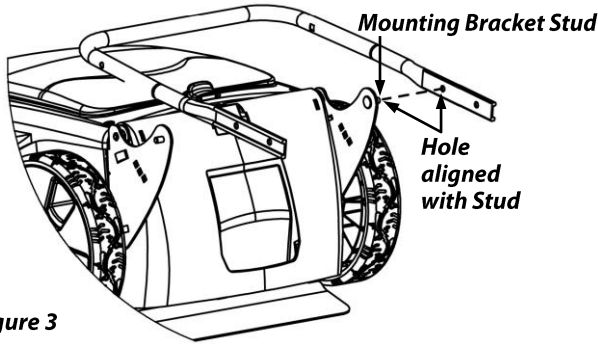

Figure 3
1. Lay the Lower Handlebar on top of the Mower and align the hole shown in **Figure 3** with the Stud on the Right Handlebar Bracket. Once you align the holes, slide the Handlebar to the left to engage the hole with the Stud.